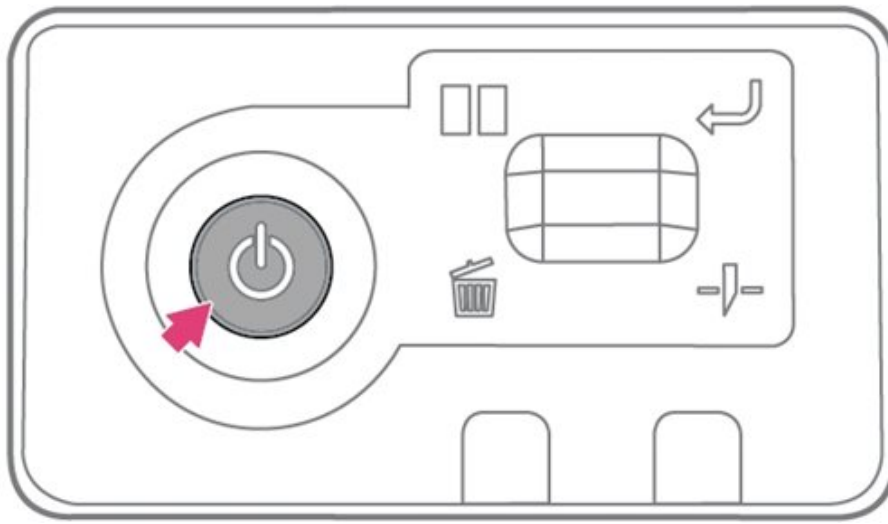

Figure 21
2. Make sure that the power button is turned off. If the power switch is in a pressed inward state, it is turned on and you must press it again. See Figure 21.